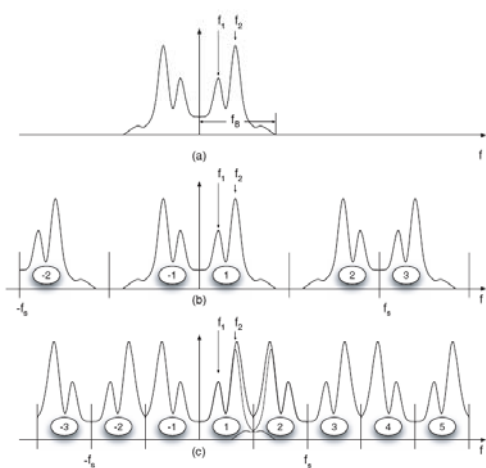

Figure 1.4. a) Bilateral spectrum of a continuous-time signal. b) Sampled spectrum by using $f_s/2 > f_B$. c) Sampled spectrum with $f_s/2 < f_B$.
- Figure 1.4 a) shows the bilateral spectrum of a continuous-time signal.
- Figure 1.4 b) shows the sampled spectrum using $f_s/2 > f_B$
Figure 1.4 a) shows the bilateral spectrum of a continuous-time signal.
Figure 1.4 b) shows the sampled spectrum using $f_s/2 > f_B$